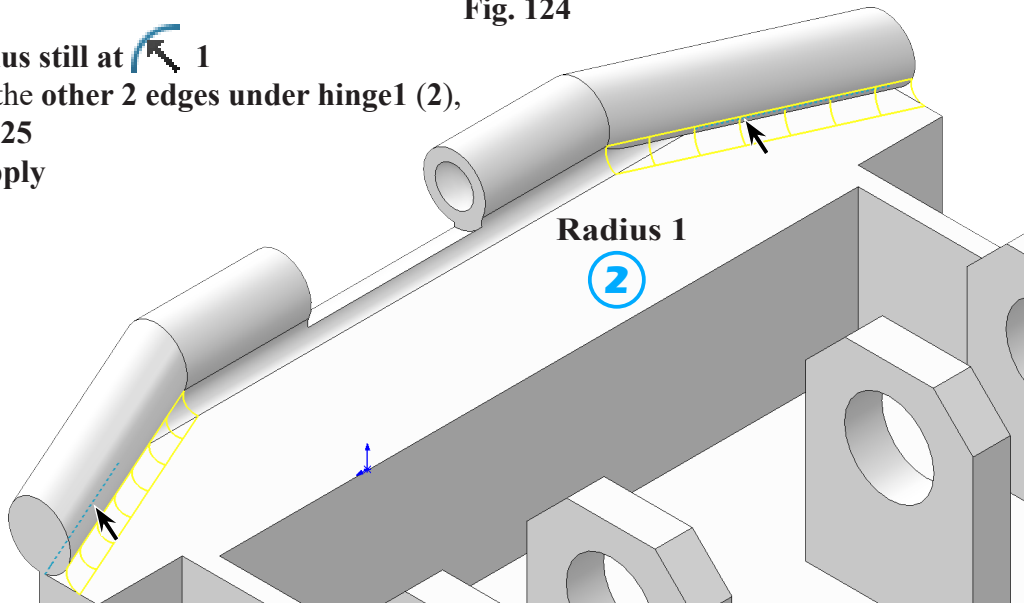

Fig. 125
② **Radius** still at  **1**
click the **other 2 edges under hinge1 (2)**, Fig. 125